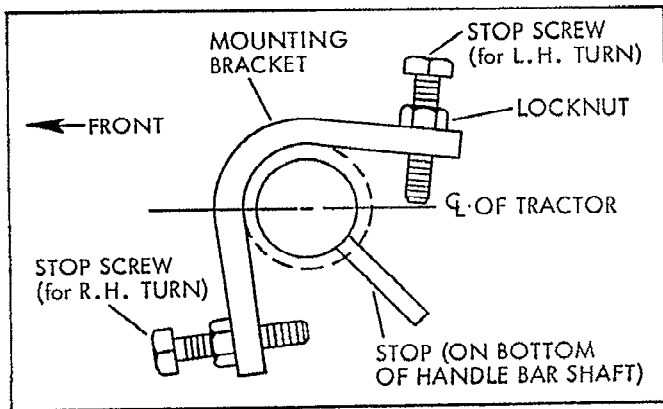

Figure 14.
- B. The R.H. stop screw (see Fig. 14) is adjusted to change the L.H. turning radius and the L.H. stop screw changes the R.H. turning radius.